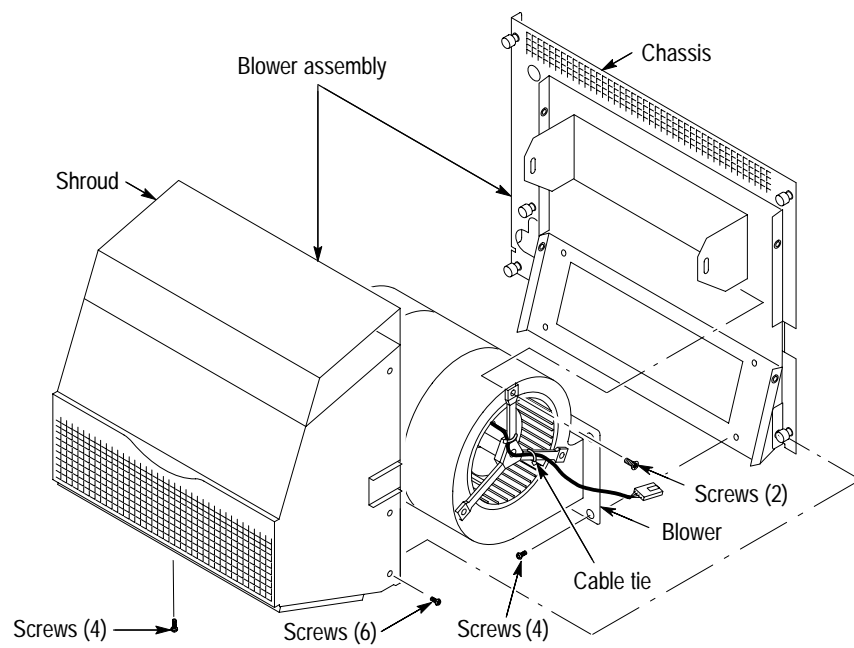

Figure 8-7: VX1420A-Removing the blower
11. VX1420A: Remove the ten 8-32 screws that secure the shroud to the chassis using a 3/32 Allen wrench. Six screws are located on the sides of the shroud and four screws are located on the bottom of the shroud. Separate the shroud from the blower assembly. See Figure 8-7.